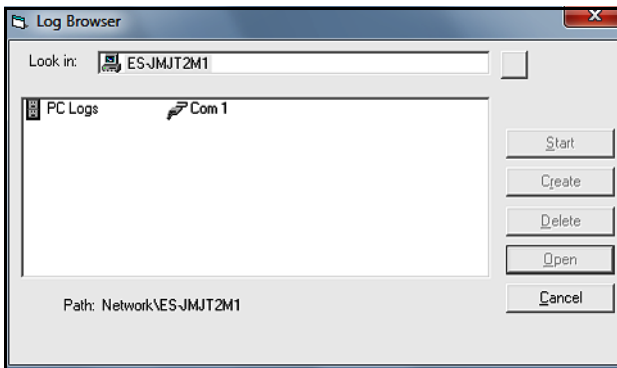

Figure 63: Communication Port Selection
- a. Double click on the *computer name* to move to the network level shown in *Figure 63* below.